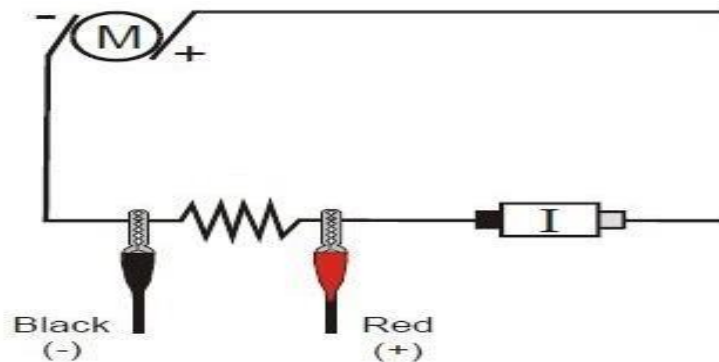

Figure 2
3. Connect the motor, wires, and clips as shown in Figure 2. Take care that the red lead from the motor and the red terminal of the Current Probe are connected.